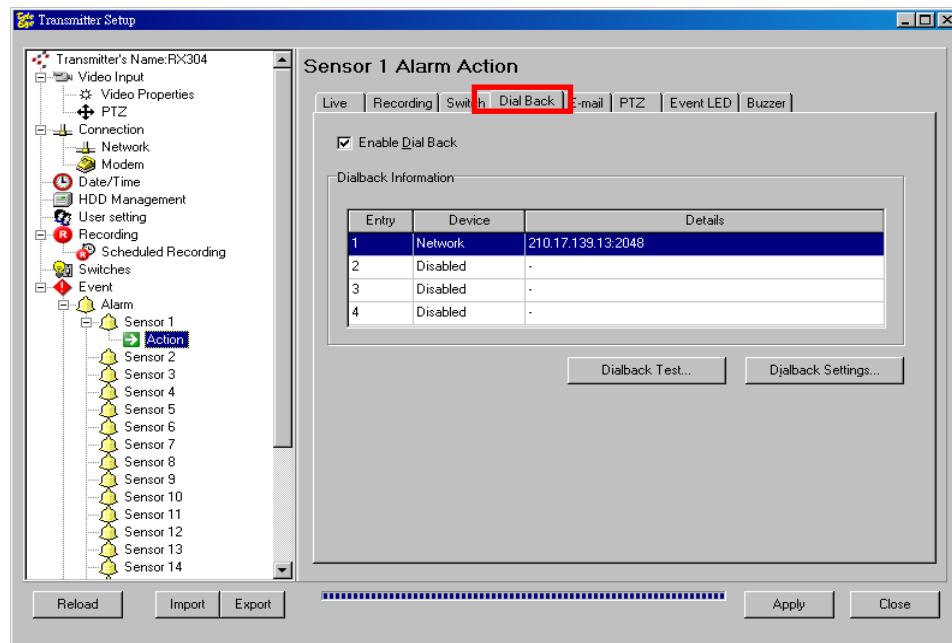

Fig 8.211a
Step 1 : In {Transmitter Setup} panel, click [Event] → [Alarm] → [sensor (No.)] → [Action] → [Dial Back] option to setup email as **Fig 8.211a**.